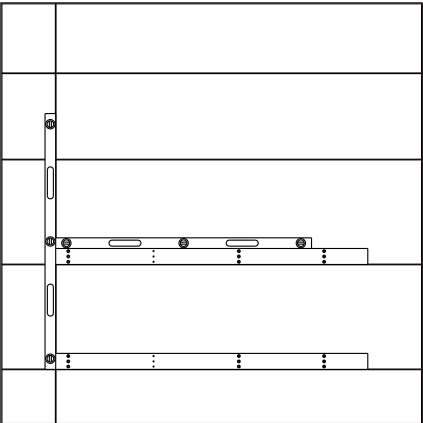

Figure 8: Repeat Stud Attachment Pattern
8. Move up to the next row of tubes and repeat the stud attachment pattern from the bottom row. Refer to **Figure 8**. Verify the tube is horizontally level and the tubes are plumb and level to each other by a tolerance of ±1/4" in the X-axis and by +1/4"-1/2" in the Y-axis. Y-axis tolerance for the top tube is ±1/4" to prevent the tube from extending above the top of the display.